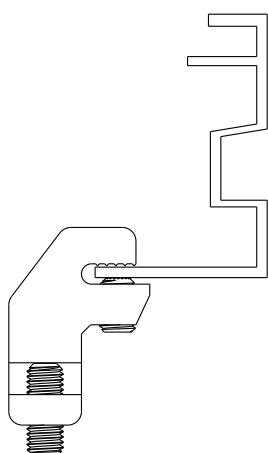

FIGURE 2
- 2). Torque 'Frame Mount Set Screw' to 45 lb-in using a 1/8" allen key or hex driver (See Figure 2).